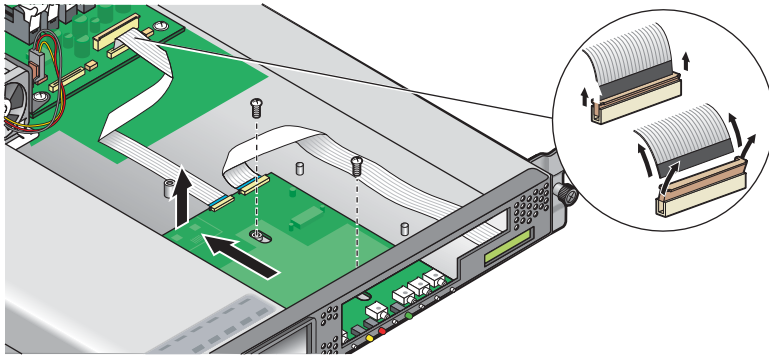

FIGURE 4-16 Uncabling and Removing the Operator-Panel Board
4. Unfasten the ribbon cable connecting the operator-panel board to the motherboard (see FIGURE 4-16).
5. Remove the two screws and washers mounting the operator-panel board to the chassis (see FIGURE 4-16).